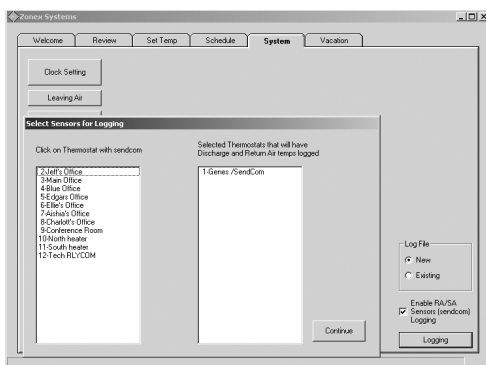

Fig. 32
- a. Click on the box labeled **Enable RA/SA Sensors (SENDCOM) Logging**. This will open another box, which lists all thermostats in your system (see Fig. 32).